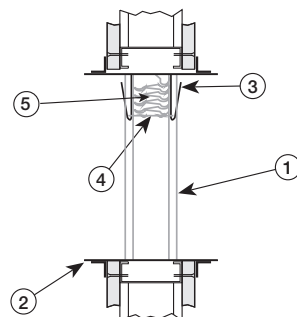

**Figure 1**
1. Ensure that you are working from the “K-side” of the damper as noted in **Figure 1**. Failure to do so could result in increased difficulty in reopening the damper. If the K-side is not accessible refer to IOM part number 459019 (Latch Release Tool).